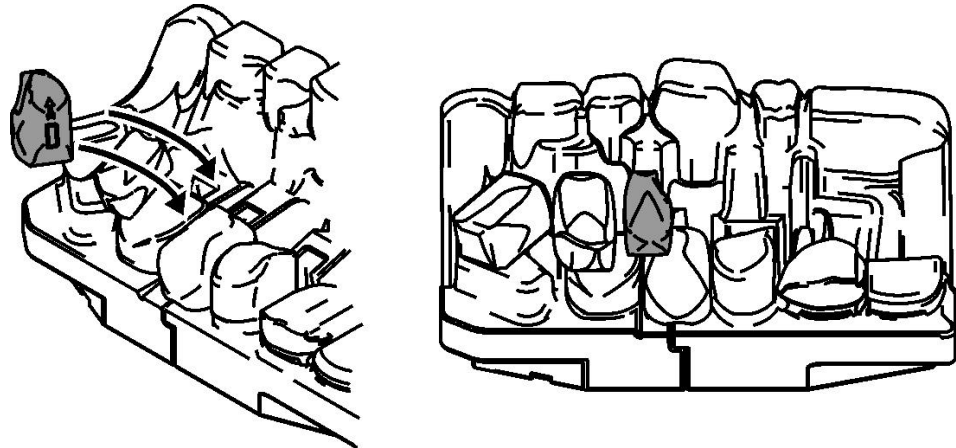

Figure 6. Second row "Coal D"
**8.** Hold coal 'D' upright with the arrow pointing to the top. Locate coal 'D' as shown in figure 6.